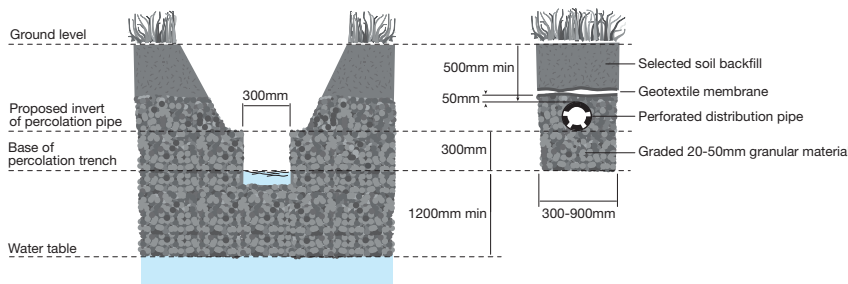

Figure 1 - Percolation/water table test
**Trial hole and percolation test method (See figure 1)**
## Drainage field construction (See figures 1 and 2)